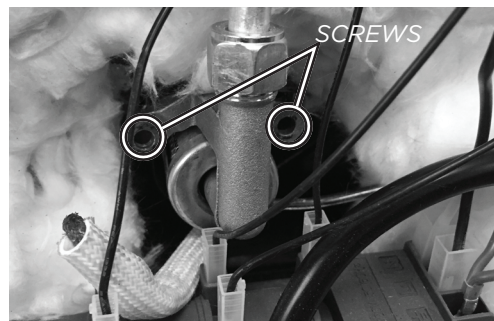

FIG 2. BROILER
2. Gently bend gas tube to gain access to the orifice (Fig 2)